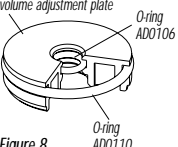

Figure 8
2. Insert the hooked tool into the volume adjustment plate's opening and carefully pull it upward being careful not to damage the plate. Work from side to side not allowing the plate to become jammed within the shaft. Once you have removed the plate, you will find the rebound ramp and compression ramp loose inside the piston shaft. They were attached to the rods you removed in step 1. If you are simply repairing a leak, you can replace the o-rings on the plate as shown in figure 8, and move to step 4.